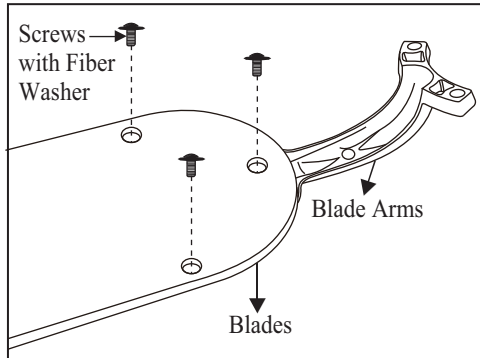

Figure 16
1. Attach blades to blade arm using the screws with fiber washers provided. (Fig. 16) Start a screw into the blade arm, do not tighten. Repeat for the 2 remaining screws and washers.